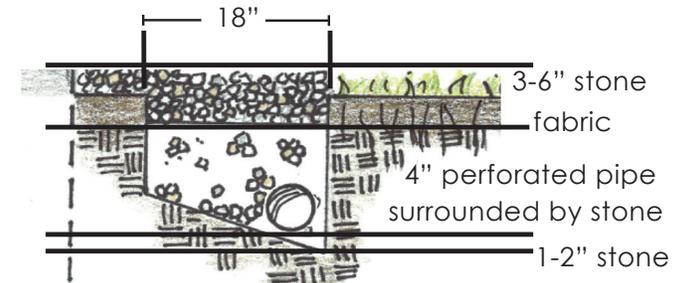

Figure 2. Profile for slowly draining soils.
*For Slowly Draining Soils:* **Fill the bottom 1" - 2"** of the trench with crushed stone. Lay a 4" perforated pipe with the holes facing up along the trench. The end of the pipe should either outlet to a vegetated area with a splash guard to prevent erosion or to another treatment practice such as a dry well or a rain garden. The pipe should be sloped toward the outlet so the water easily flows out of the pipe. Consider screening or adding another type of rodent guard on the exposed end of the pipe to prevent animals from nesting and clogging the pipe. Fill the trench with  $\frac{1}{2}$ " to  $1\frac{1}{2}$ " crushed stone until it is about 3 inches below the ground level. Place a piece of non-woven geotextile fabric over the stone layer and fill the remaining three inches with additional stone (Figure 2).